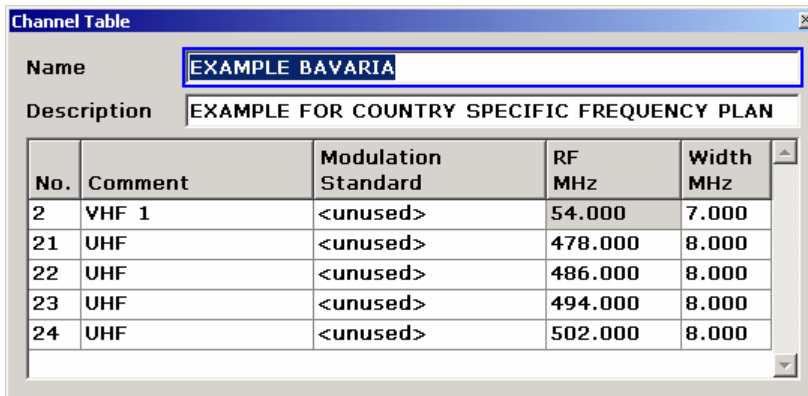

Fig. 2-65 Channel table "EXAMPLE BAVARIA" with entered frequency plan
Having finished the first step, you have build a channel table as shown in Fig. 2-65. Please note, that it is not possible yet, to do any measurements, as all channels are marked as **< unused >**. Nevertheless, you can use the *EXAMPLE BAVARIA* channel table as a base model for all channel tables required all over Bavaria.
4. The **Channel Table** dialog box is displayed (see Fig. 2-65).